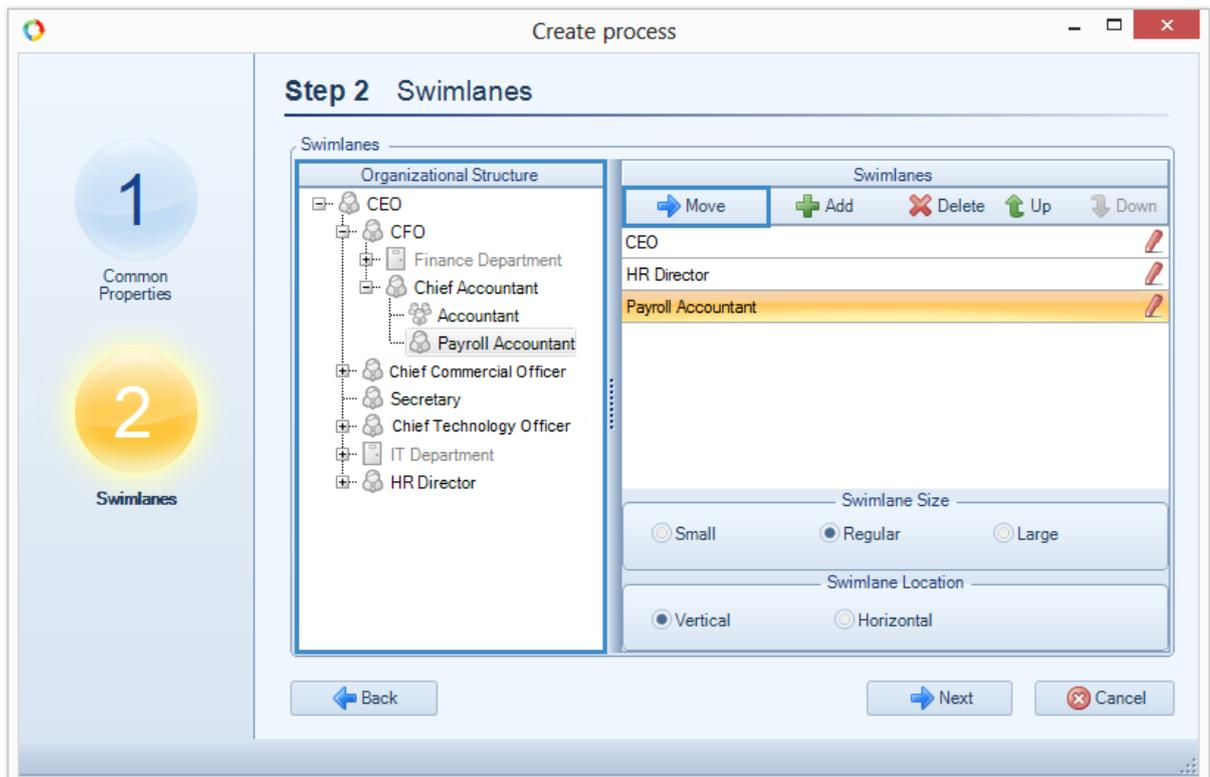

Fig. 47. Step 2 of the Process Creation Wizard
- ii. **Step 2. Swimlanes.** Select and add the business process participants. To do this, use the organizational structure created and published before. In the **Organizational Structure** window, select one element. In the upper right corner of the Wizard window, click **Move**. The selected element will appear in the Swimlane area to the right. You will also be able to add or remove participants at the later stages of the process modeling. Select and move the following elements: CEO, HR Director and Payroll Accountant (Fig. 47).